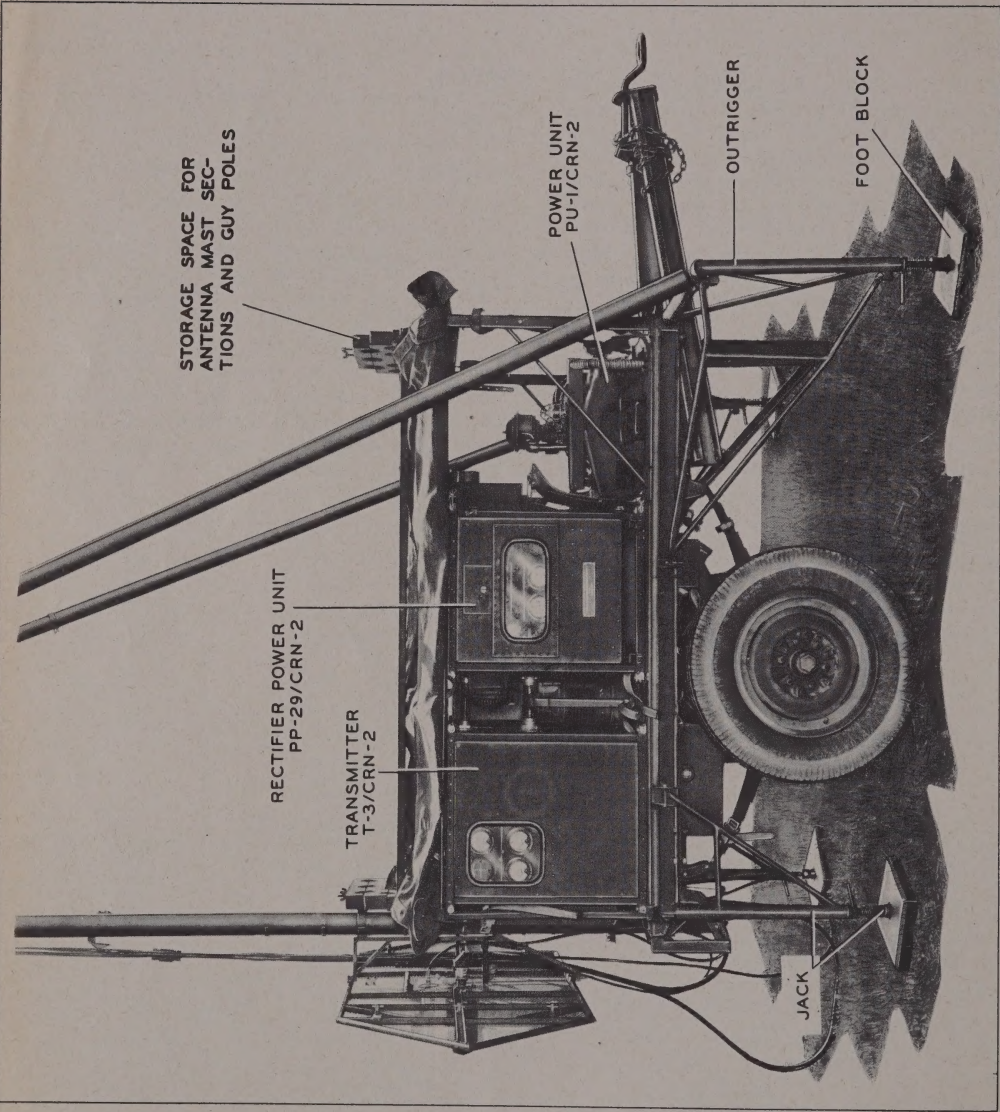
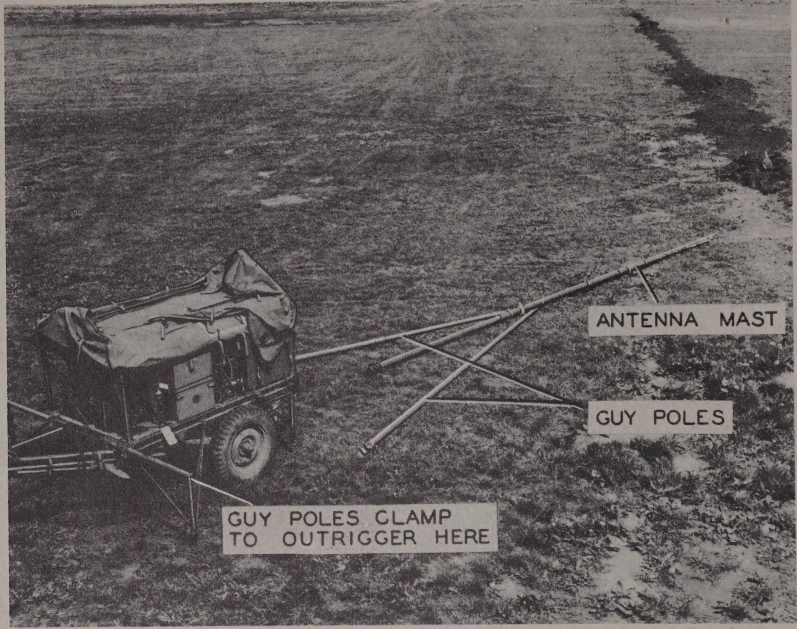

Figure 1-2. Radio Set AN/CRN-2—Transmitter Side
Figure 2-6. Radio Set AN/CRN-2—Antenna Mast and Guy Poles Before Erection
(1) Line up the equipment so that the rear end is approximately perpendicular to the center line of the runway.
(2) Detach the jacks and outriggers from their locations on the trailer and set them up. (See fig. 1-2.)
(3) Remove the antenna mast sections and the guy poles from their storage place on top of the trailer.
(4) Place these sections and guy poles on the ground and assemble them with clamps and expanding screws. (See fig. 2-6.)
parts cabinet to the mast and level the trailer by means of the jack. Use the footblocks, found between the control panel and the transmitter proper, underneath the jacks. (See fig. 1-2.)